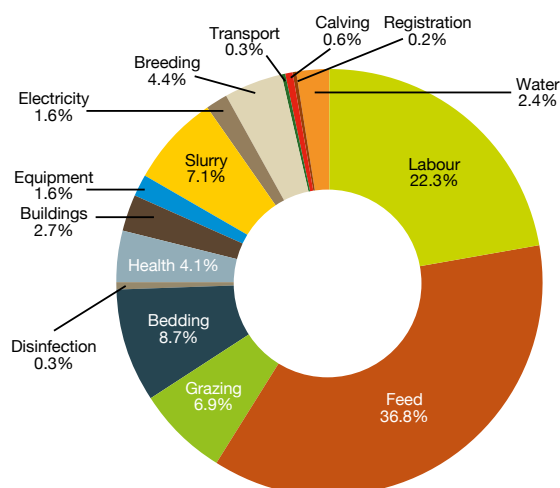

Figure 22. Proportion of rearing cost for each input (excludes interest and opportunity costs)
- The largest expense was feed, followed by labour and bedding (Figure 22)